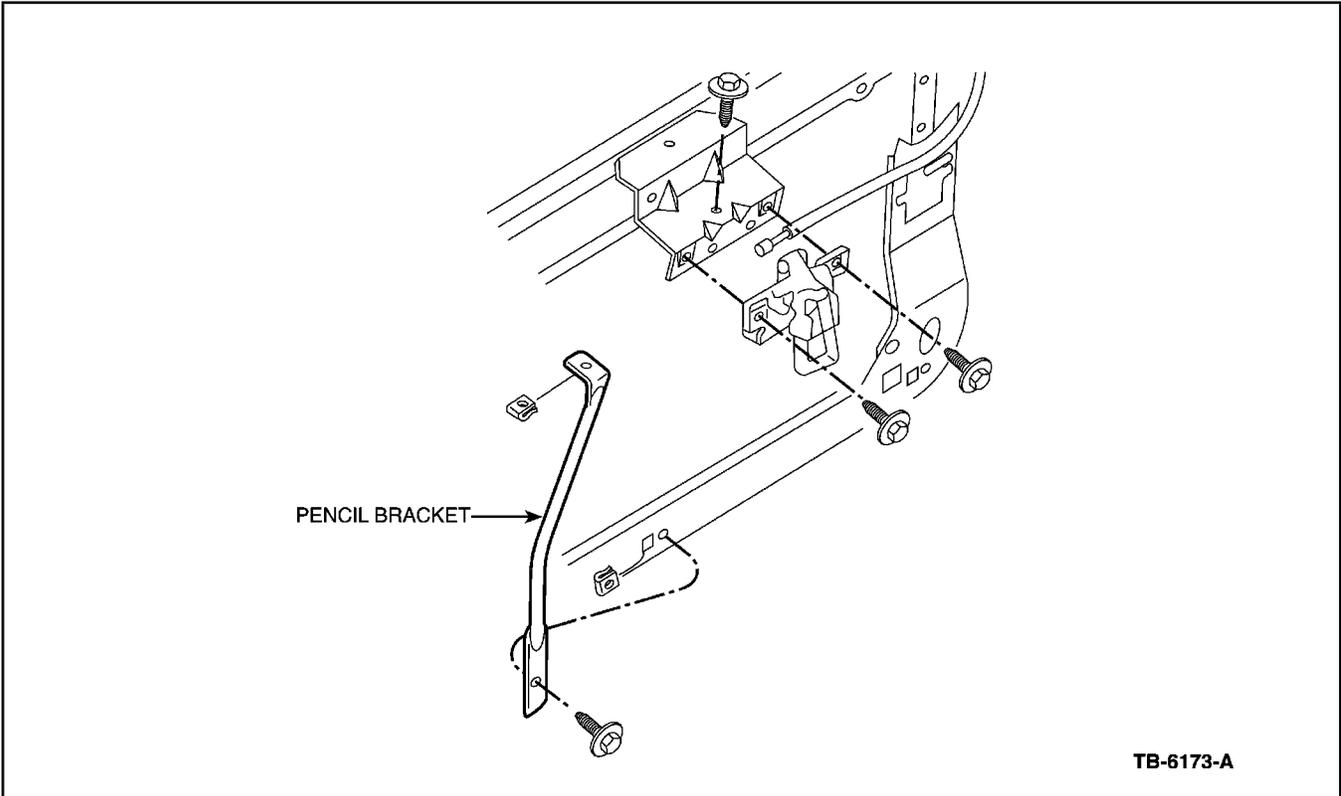

Figure 1 - Article 00-21-2
1. Loosen the bolt that attaches the pencil bracket to the bottom of the radiator support (Figure 1).
9. Secure the fastener that attaches the pencil bracket to the bottom of the radiator support to 12 N•m (9 lb-ft) (Figure 1).